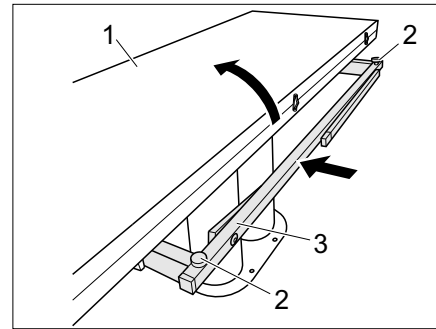

Fig. 113 Reducing the table
- Fold in the table half (Fig. 113,1).
- Screw the two adjusting screws (Fig. 113,2) in.
- Push in the table base (Fig. 113,3).